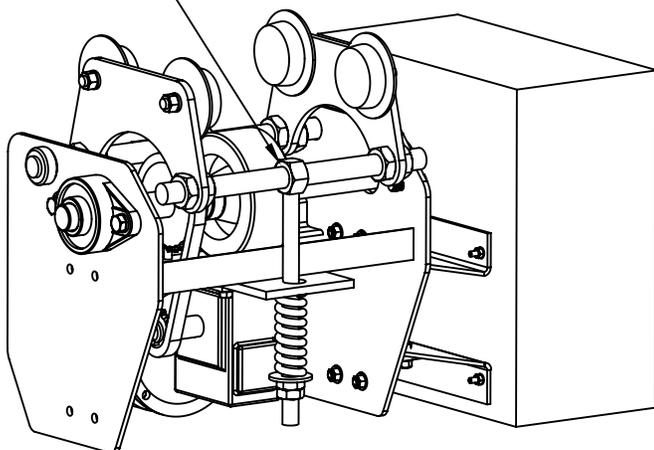

Figure 14
10. Unscrew the threaded rod from the adjustment hinge weldment highlighted **per Figure 14**.